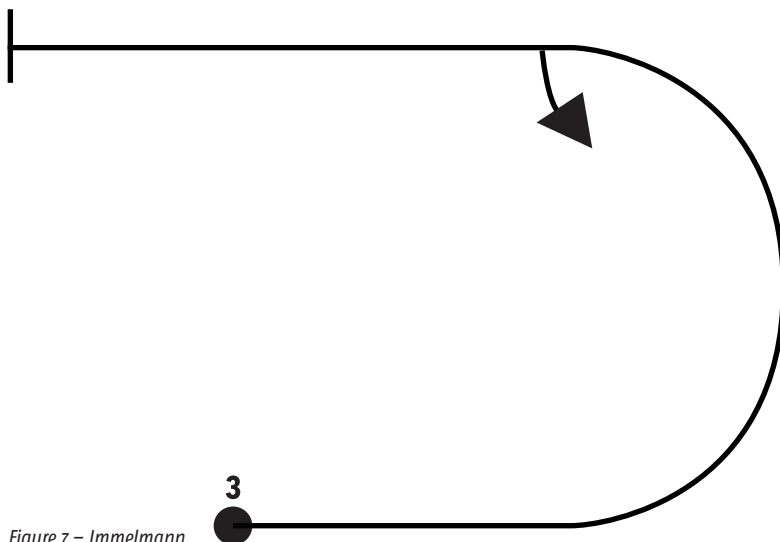

Figure 7 – Immelmann.
**IMMELMANN:** The Immelmann (Figure 7) can be the bane of new people’s existence, and one of their highest causes of frustration.